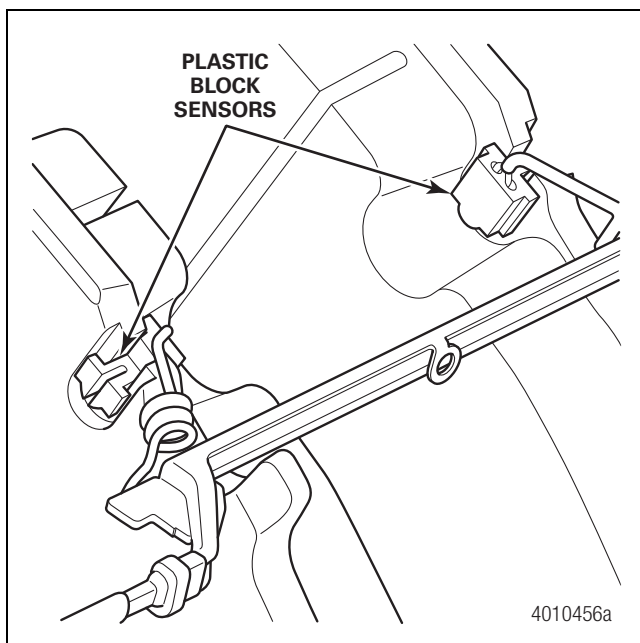

Figure 9.7
3. Ensure the PWWI wiring is routed over the pad backplate, away from the rotor. Figure 9.7.
1. Install the plastic blocks of the PWWI into the pads. Do not use excessive force, but ensure they are pushed to the bottom of the slot. Figure 9.7.